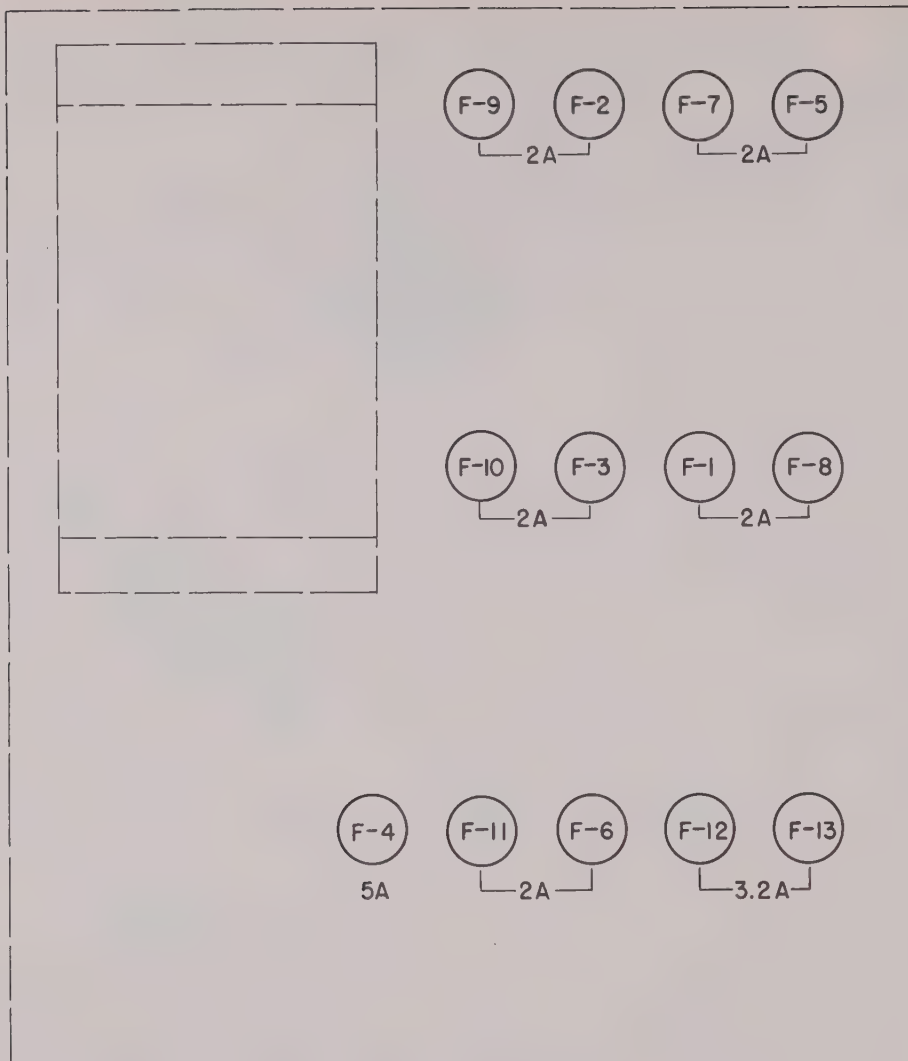

Figure 24. Rectifier Power Unit Model 36D, fuse panel
f. Installation of Fuses (fig. 24). The rectifier requires 14 fuses. All of the fuses are of the cartridge type. Thirteen fuses are located on the fuse panel, which is between the second and third shelves (fig. 4) just to the right of the control panel. Access to this fuse panel is obtained by opening the door at the front of the cabinet. The fuses on the fuse panel fit into sockets and are held